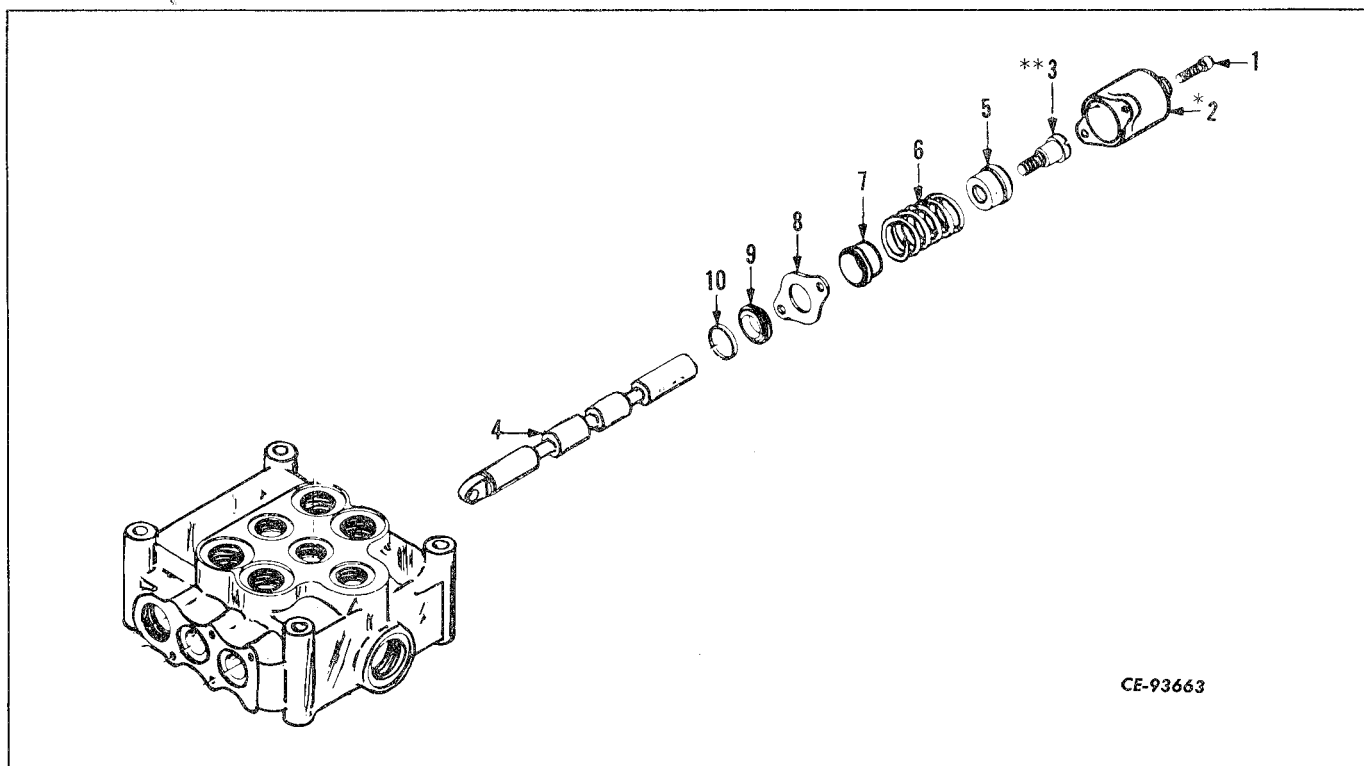

Figure 11-5
3. Bucket plunger group - refer to Fig. 11-5.
Disassemble the bucket plunger group in numerical order (refer to Fig. 11-5).